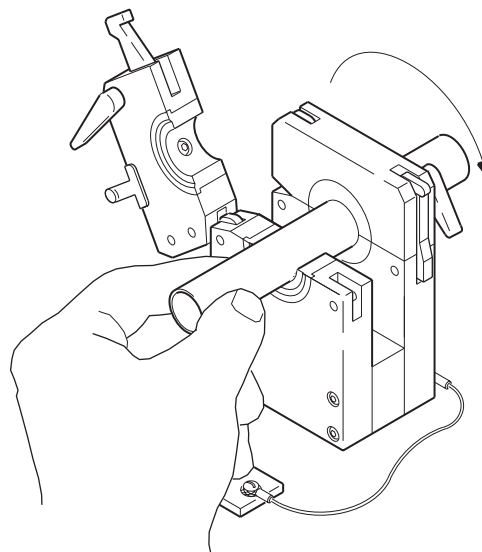

Figure 17 Placing the Tubing
5. Close and lock the side plate that is not adjustable. See Figure 17.